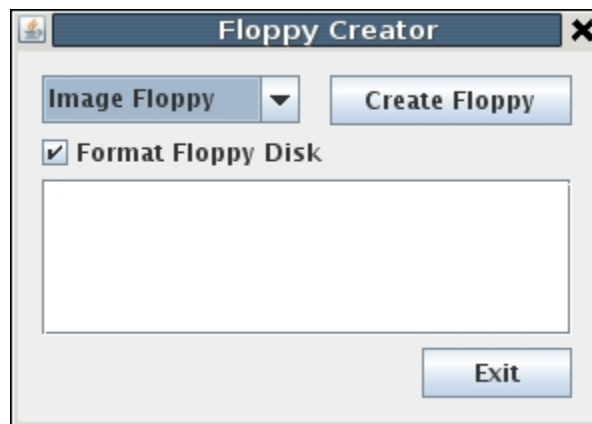

Figure 8: Floppy Creator window
2. Select **Create Firmware Disks**. The **Floppy Creator** window opens, as shown in Figure 8.